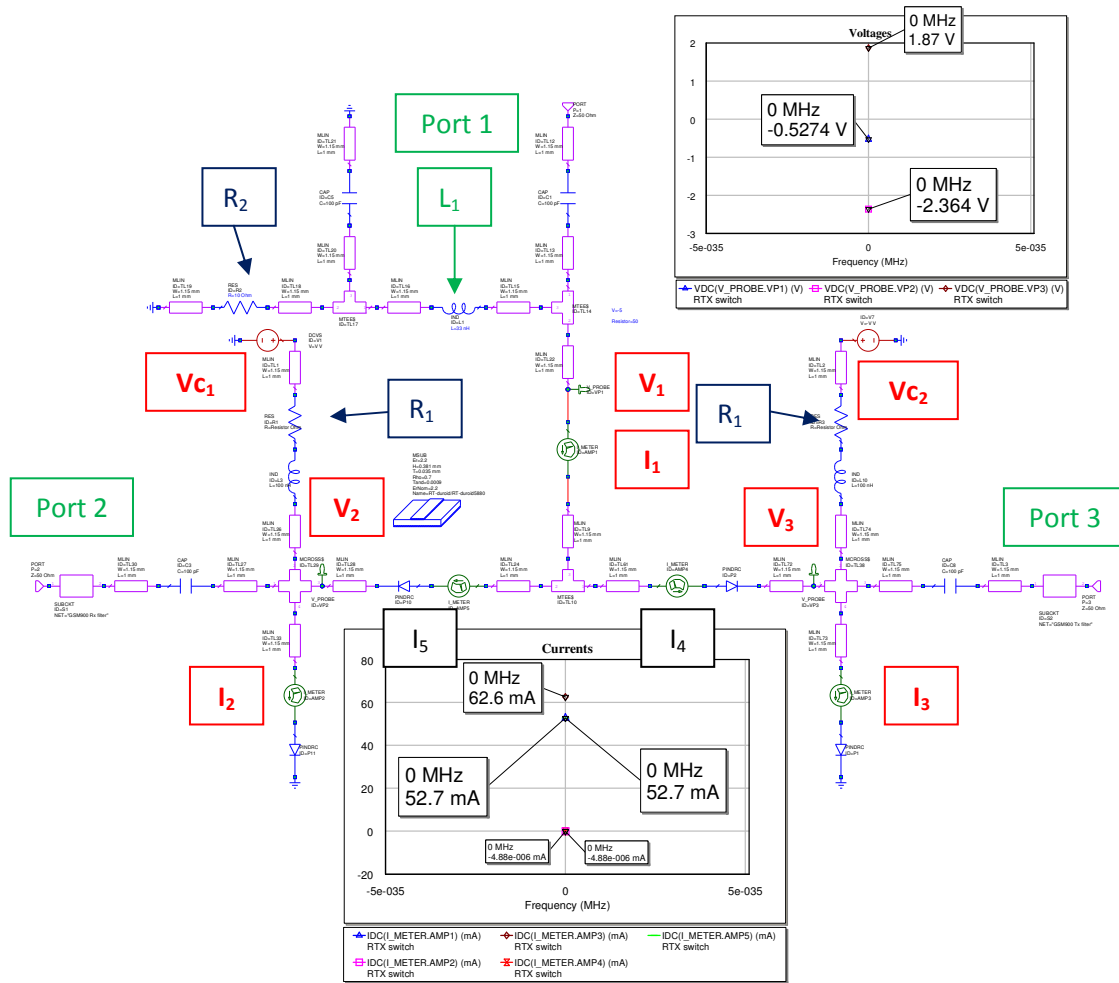

Figure 4
- Assume that $V_{C1} = -5\text{ V}$ and $V_{C2} = +5\text{ V}$. Figure 4 shows circuit voltage and current labels.